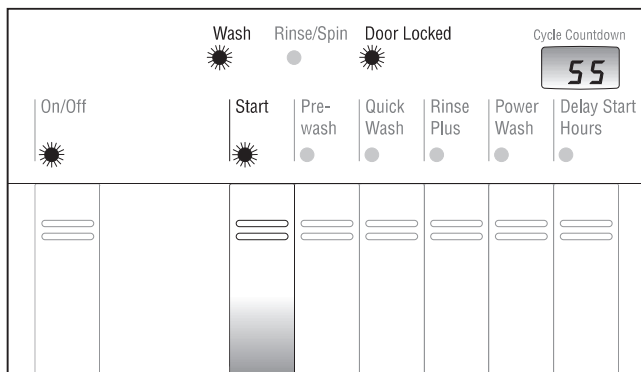

Figure 14.
**VI. Press the “START” button. The “START” indicator light will stop flashing and become illuminated, the washer will start, the “Door Locked” light will become illuminated and the washer will continue to the end of the selected cycle. The cycle indicator lights will display the cycle that is running and the “Cycle Countdown” alphanumeric display will indicate the estimated time remaining until the cycle ends. See Figure 14.**